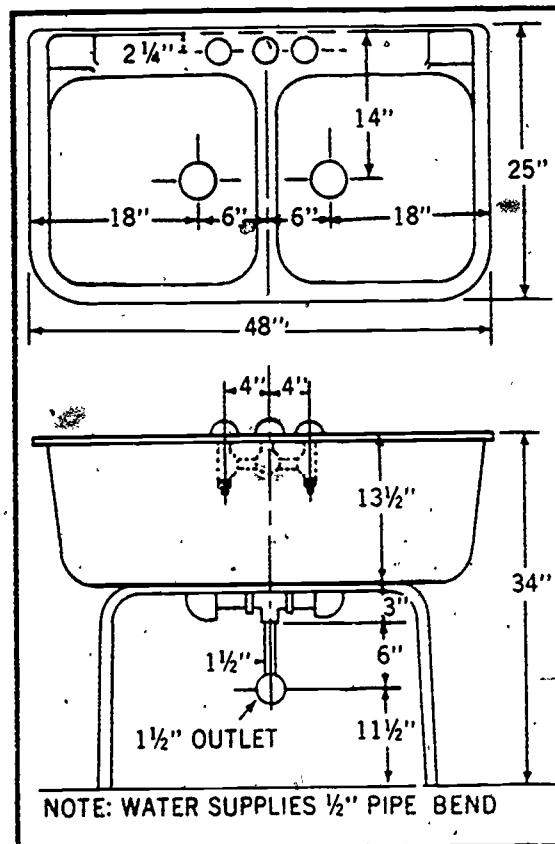

Figure 5-25 Laundry tub rough-in measurements
**Installation of laundry tubs.** Before you begin to install a laundry tub assembly, be sure to refer to the manufacturer's installation specifications. The installation specifications for a typical set of laundry tubs are illustrated in figure 5-25.